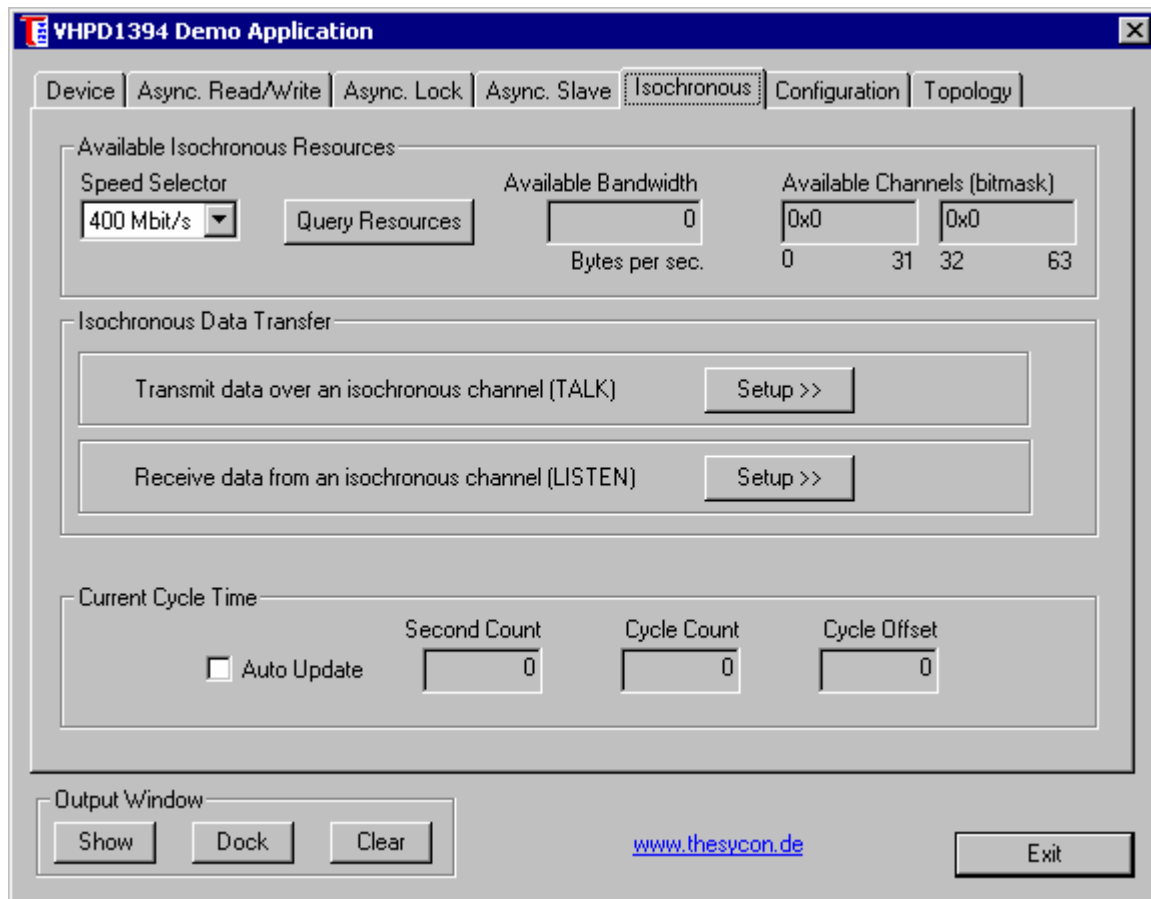

Figure 25: Isochronous setup #1 (VHPD demo)
- Select the "Isochronous" tab as shown in Figure 25
- select the "Isochronous" tab as shown in Figure 25